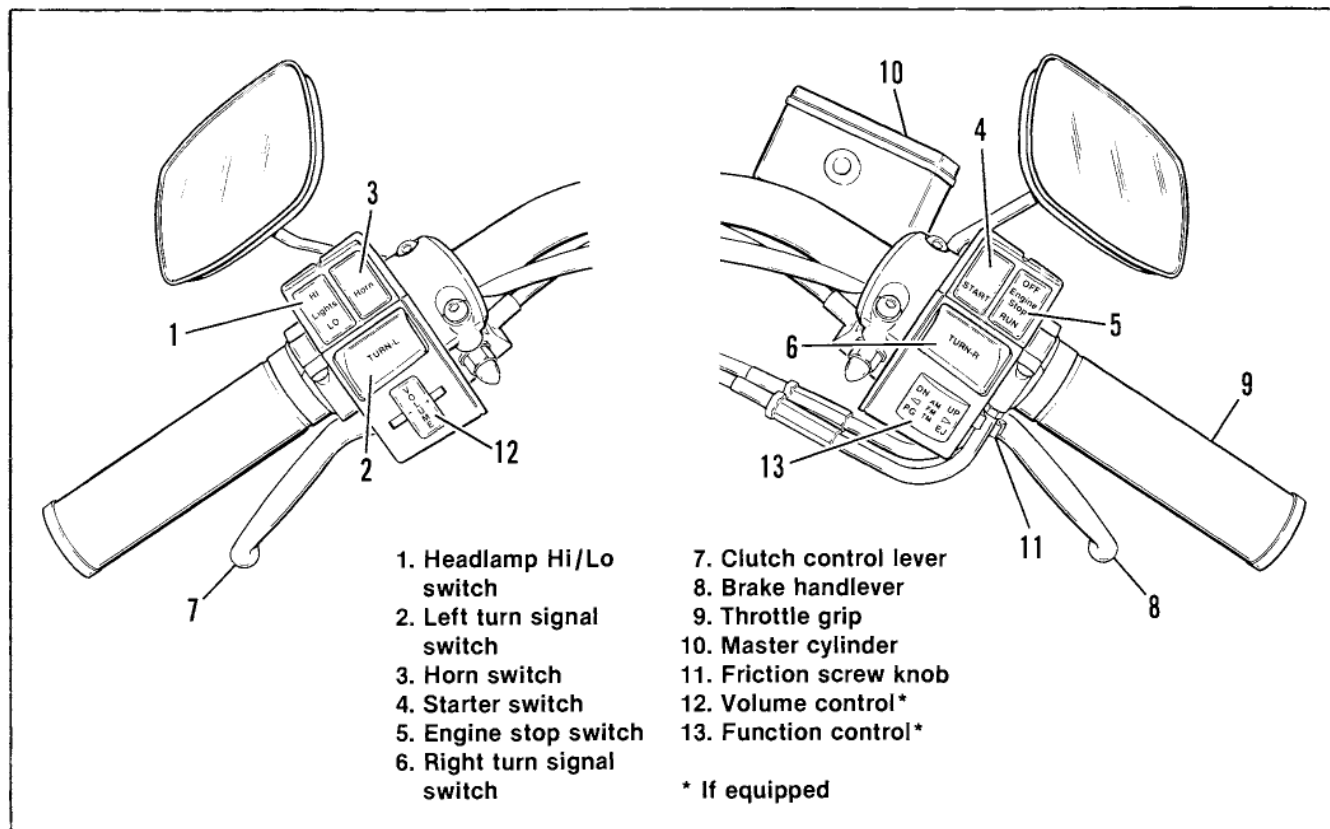

Figure 2. Handlebar Controls
See Figure 2. The electric starter switch (4) is located on the right handlebar control. Put engine stop switch (5) in RUN position and transmission in neutral. Turn ignition ON and push the START switch to operate starter motor.
See Figure 2. Engine stop switch (5) is located on the right handlebar control. The engine stop switch turns ignition ON or OFF and should be used at all times to stop the engine, especially in an emergency. To stop engine, push switch to position marked OFF.
See Figure 2. The throttle control grip (9) is located on the right handlebar control. Turn control grip clockwise to close throttle; turn control grip counterclockwise to open throttle.
See Figure 2. The clutch hand lever (7) is located on the left handlebar where it is operated with the fingers of the left hand. Pull lever in against handlebar grip to disengage clutch; release the lever slowly to its outward position to engage clutch.
See Figure 2. The right handlebar turn signal switch (6) operates the right front and right rear flashing lamps. The left handlebar turn signal switch (2) operates the left front and left rear flashing lamps. Front turn signal lamps also function as running lamps.
See Figure 2. The headlamp dimmer switch (1) on the left handlebar controls the headlamp high and low beams.
See Figure 2. The horn is operated by the horn switch (3) on the left handlebar control.
See Figures 2, 5 for sound system controls. For a more detailed explanation of the sound system controls, read the Harley-Davidson Sound System Handbook.